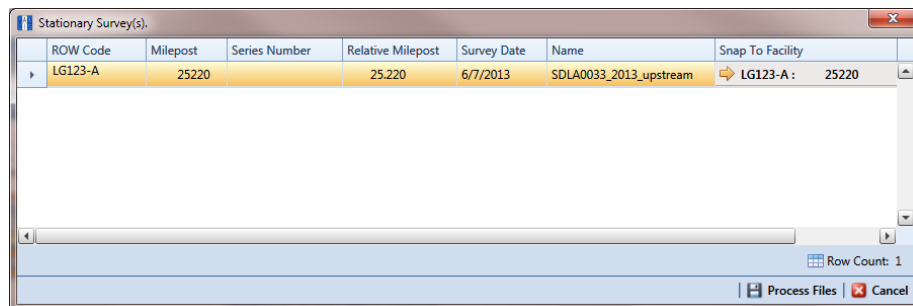
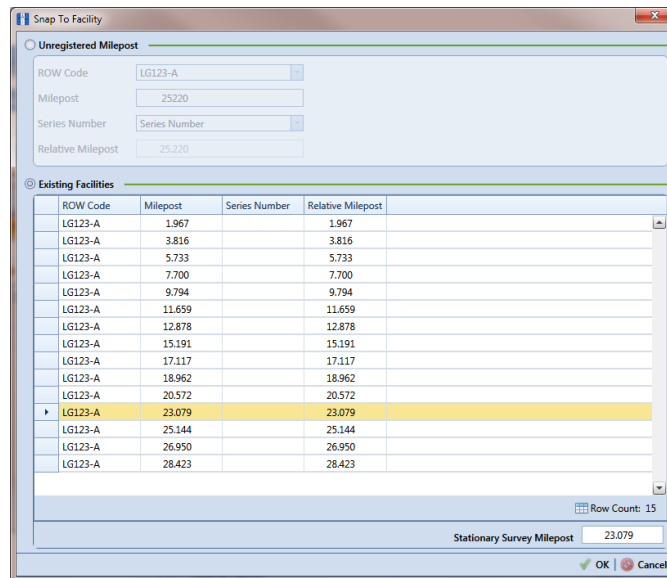

Figure 10-17. Stationary Survey(s)
Figure 10-18. Snap To Facility
- When the *Stationary Survey(s)* window opens (Figure 10-17, page 507), select the SDL survey file and then click the **Snap To Facility** button to open the *Snap To Facility* window (Figure 10-18, page 508).
- 12** When the milepost location of the SDL survey *does not* match a pipeline segment already established in PCS Axis, it is identified as an *UnRegistered Milepost* (Figure 10-18).
- a** Click **Existing Facilities** to enable the grid for use (Figure 10-18).